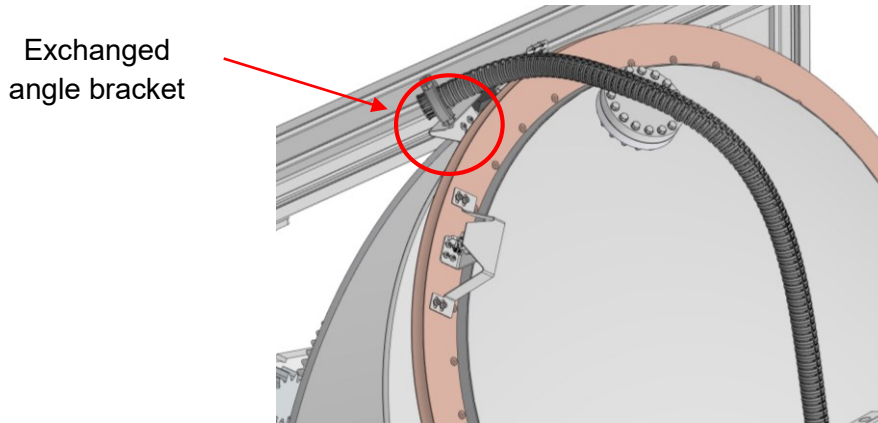

Figure 22: Angle bracket at the drag chain
7. The angle bracket at the cable drag chain shown in Figure 22 must be replaced. The required part was delivered together with the TRF. Figure 22 shows the exchanged bracket.